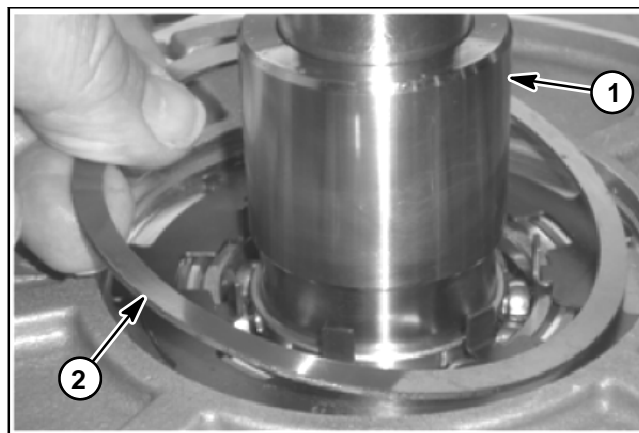

Figure 25
5. Place the gear spacer on top of the armature plate and secure with retaining ring (Fig. 25). Make sure that retaining ring is fully seated into groove in cover plate.